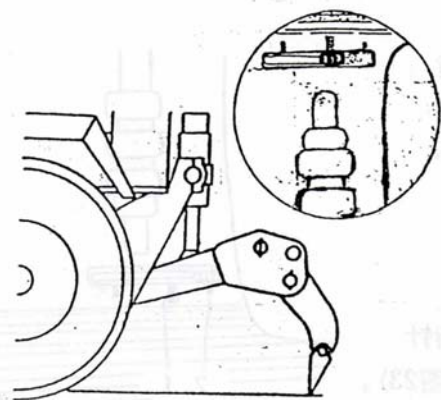

Fig. 25
2. Scarifying position (Fig.25), in the figure the grade is in horizontal condition.